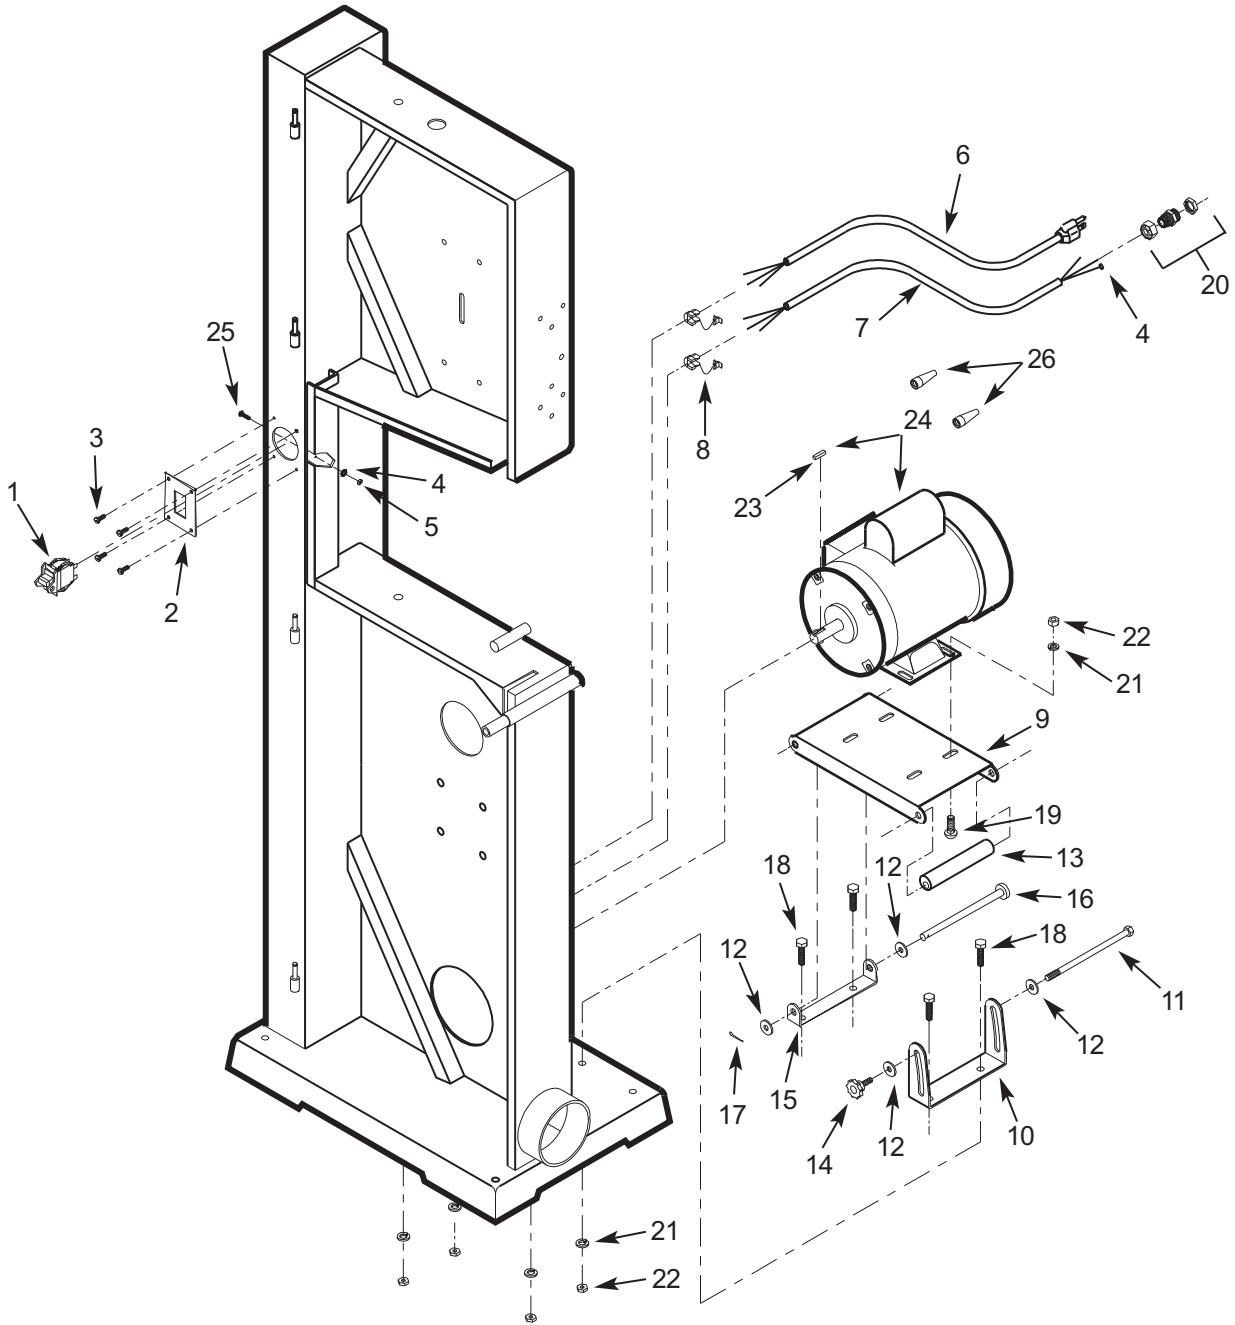

Figure 5 – Repair Parts Illustration for Motor
1. To change blade speed, loosen motor mount plate (Figure 5, Ref. No. 9) by loosening hex nut on hex head bolt (Figure 5, Ref. Nos. 14 and 11).